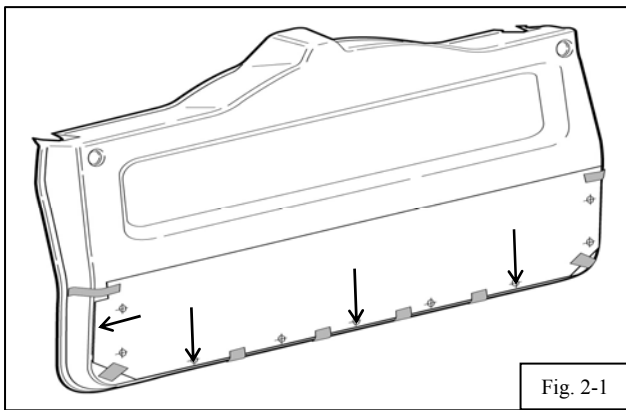

Fig. 2-1
-  (a) Align lower edge of paper marking template to lower edge of back door panel. (Fig. 2-1)
-  (b) Align left edge of paper drill template to left edge of rear door panel. (Fig. 2-1)